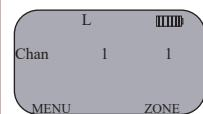

Figure 1
- Enter the zone number via the key pad and press the "OK" softkey. **(See Figure 1)**